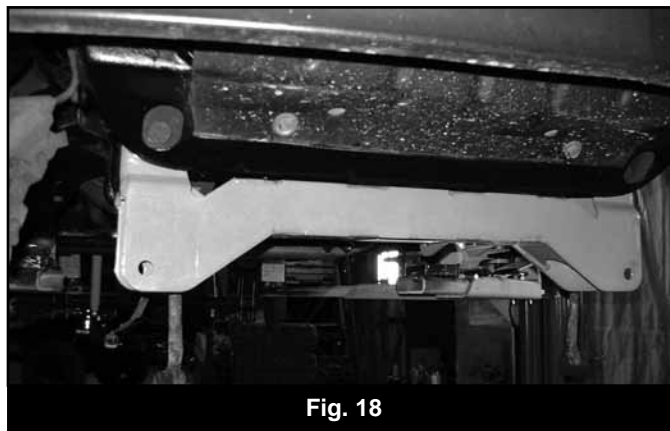

Fig. 18
35. Install the new front crossmember (02344) in the lower front OE control arm pockets using the original control arm pivot bolts, nuts and washers (Fig 18). Install bolts from front to rear and leave loose.